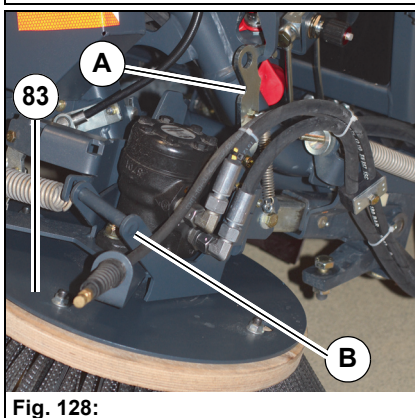

Fig. 128:
The transport protection device **Fig. 128-A** is located on both sides of the sweeping unit **Fig. 128-83** and has the task of protecting the rotating brushes during transport.
- Locking: Raise the brush arm using the handle **Fig. 128-B**. Lock the brush arm with the hook of the transport protection device.
- Unlocking: Raise the brush arm using the handle **Fig. 128-B**. Unlock the brush arm with the hook of the transport protection device and carefully let the brush arm down.
1. Lock the sweeping unit with the transport protection device **Fig. 128-A**, see page 134.